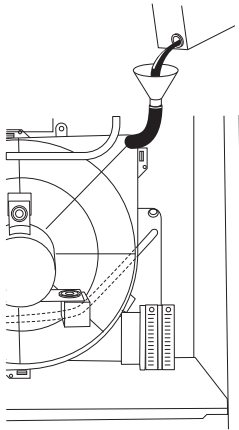

Fig. 36 - Pour Antifreeze
7. Pour 1 quart of antifreeze into funnel/tube. Antifreeze should run through inducer housing, overflow condensate trap, and flow into open field drain. (See Fig. 36.)